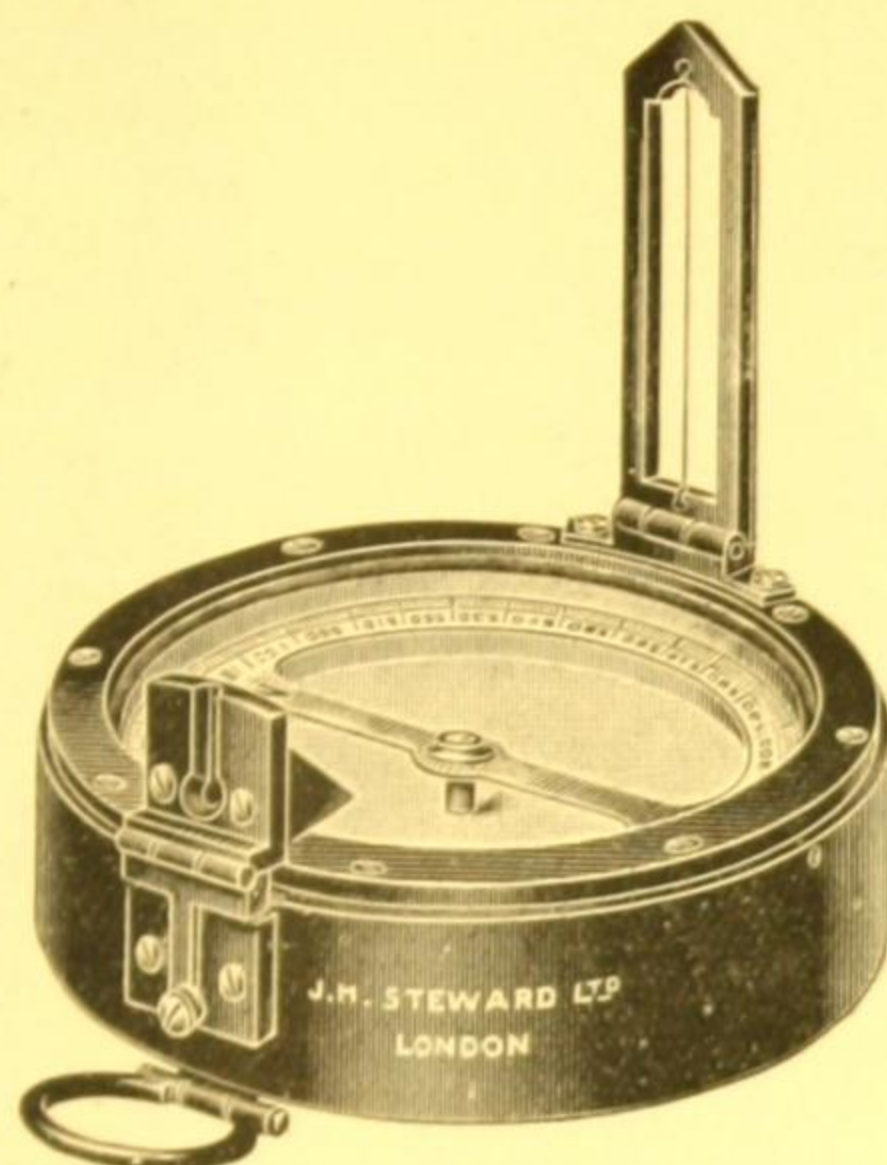

Fig. 80.
**Liquid Prismatic Compass** with bronzed brass mounts and cover. Aluminium ring divided to  $\frac{1}{2}$  degrees. Agate centre to needle. Adjustable reading prism. The graduated aluminium ring which is attached to the magnetic needle is completely immersed in a non-freezable liquid in which it floats, and is thus kept very steady and free from troublesome oscillations. The ring comes quickly to rest, and a series of bearings can be taken in much less time than with an ordinary prismatic compass. Any expansion or contraction of the liquid due to temperature is compensated for by the special construction of the container. Should air bubbles appear in the liquid, they can be imprisoned in a patent bubble trap so that they cannot affect the movement of the floating ring. The compass can be used in the hand or attached to a tripod by means of a threaded fitting. Fig. 80.